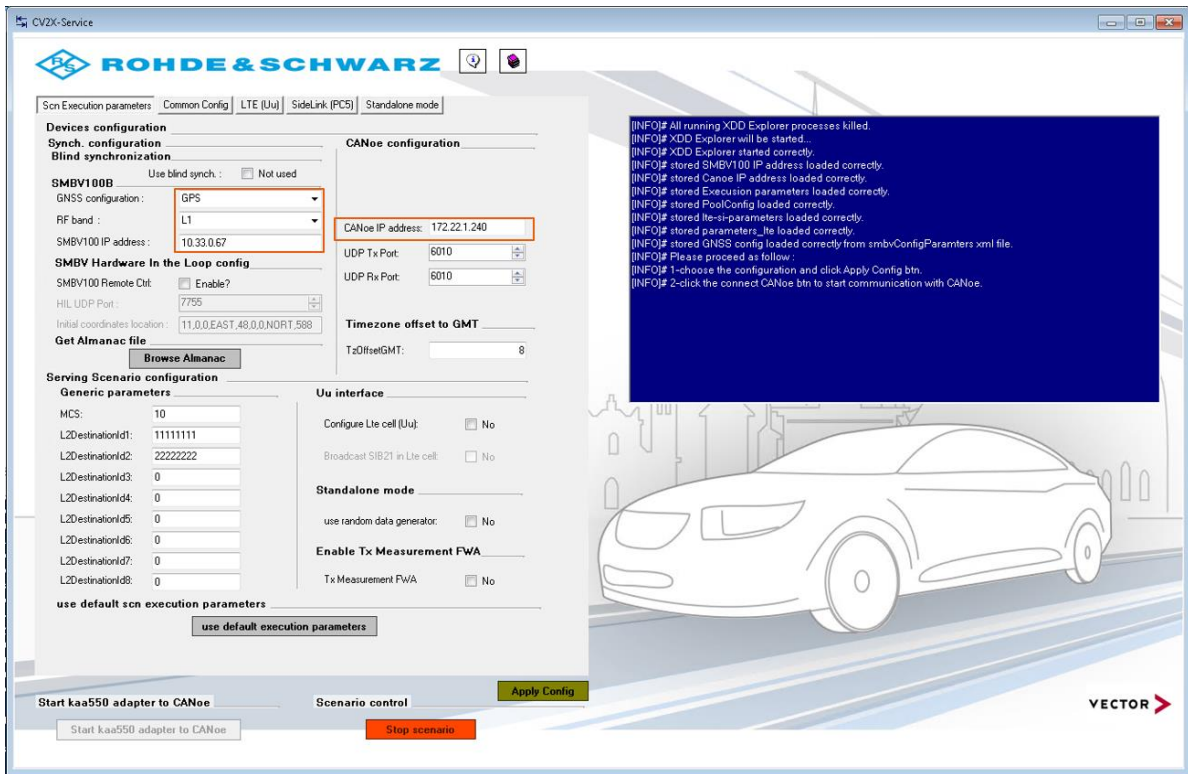

Figure 5: Configuration of Scn execution parameters
- ▶ Configure the IP address or UDP ports of the R&S® SMBV100B and the CANoe.Car2x PC (Figure 5).
- ▶ Choose the right settings for the GNSS Configuration (Figure 5)